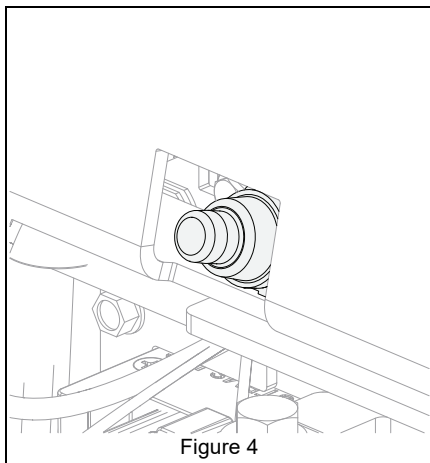

Figure 4
2. Locate pad switch. See Figure 4.